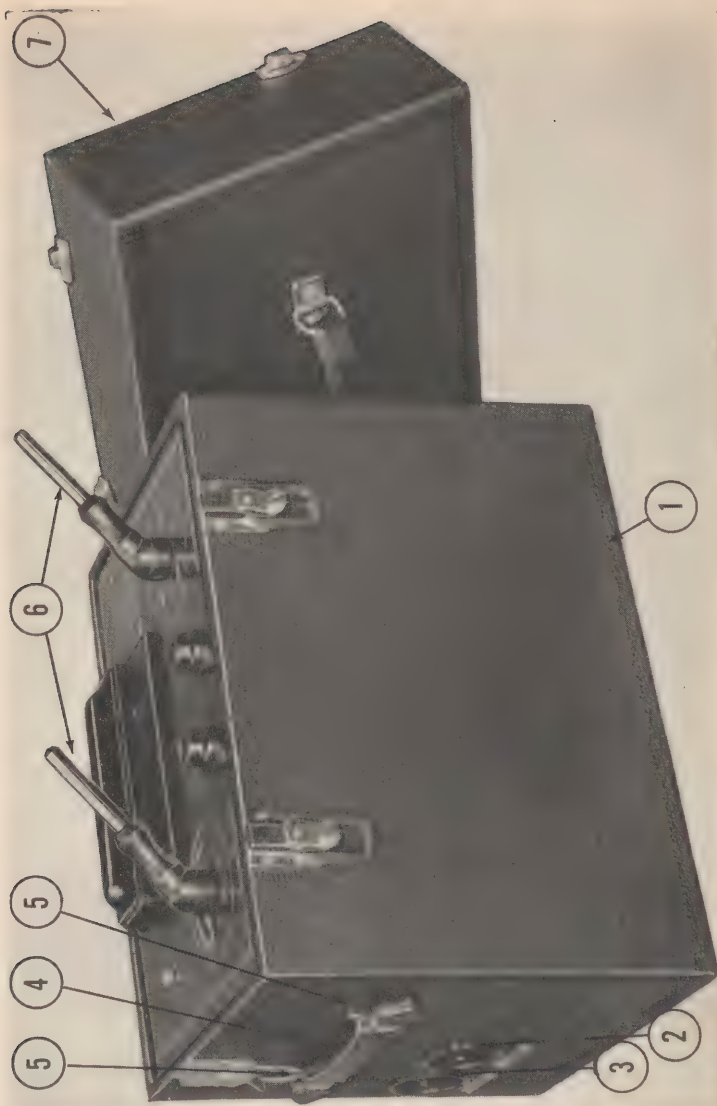
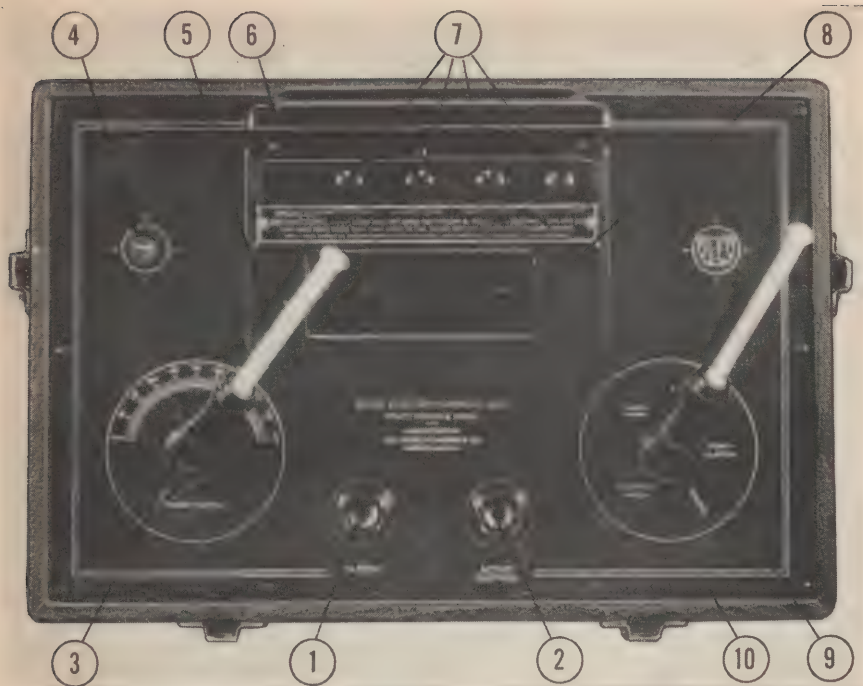
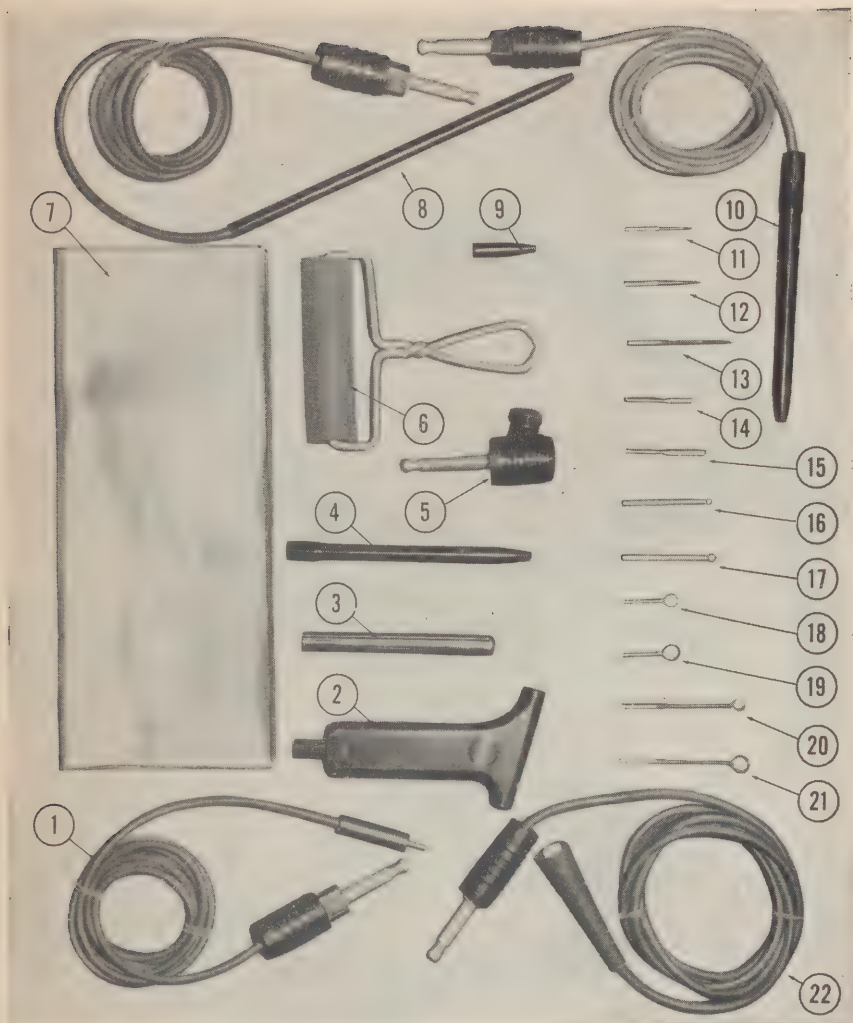
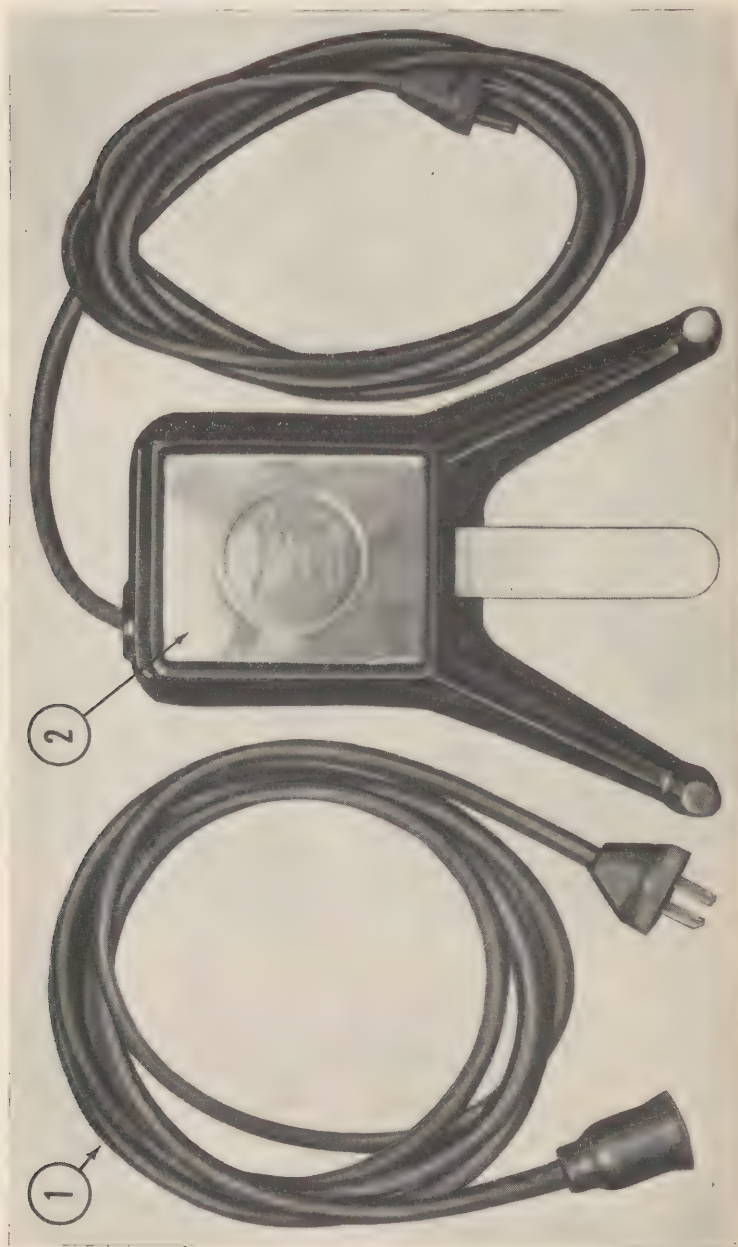

Figure 1. *Electro-Surgical Unit, Portable.*
Figure 2. Electro-Surgical Unit, Portable, top view.
Figure 4. Accessories.
Figure 5. Foot switch and supply cord.
1. SCOPE. This manual is published for the information and guidance of all personnel charged with the operation and maintenance of Electro-Surgical Unit, Portable, Medical Department No. 36703 (fig. 1) in the field. This manual is concerned chiefly with assembling, operation, maintenance, and packing of the unit. There is appended a standard nomenclature list of parts. Illustrations show the component parts and accessories described in the text.
2. DESCRIPTION. The Electro-Surgical Unit, Portable, item No. 36703, a standard type electrical surgical unit with two high-frequency oscillating currents combined in a single housing. One current generated is a cutting current, the other is a highly damped wave form for coagulation. A single selector switch permits instant change from cutting to coagulating current without release of the electrode in hand. A foot switch, 3R01656 (fig. 5), completes the control system. The unit is mounted in a compact, portable case with a compartment in the cover for accessories.
4. ASSEMBLIES. The Electro-Surgical Unit, Portable, consists of the unit completely inclosed in the carrying case (figs. 1, 2, and 3) and the accessories (figs. 3, 4, and 5) inclosed in the cover.
a. The unit includes the carrying case, complete with handles and hasps, 3R01704 (fig. 1), the various controls, and spark gap assembly, 3R01652 (figs. 3 and 6).
b. The accessories include the foot switch, 3R01656 (fig. 5), the supply cord, 3R01646 (fig. 5), and the operation electrodes and handles (fig. 4).
b. Connect supply cable, 3R01646 (fig. 5), and foot switch, 3R01656 (fig. 5), to plugs on side of case (fig. 1). Spark gap adjustment should be made at this point before other accessories are assembled. (See par. 8.)
c. Connect indifferent electrode, 3R01644 (fig. 4), to the terminal marked "Patient", using the cord with clip on one end and round plug on the other, 3R01618 (fig. 4). The clip is fastened onto the metal indifferent plate, 3R01644 (fig. 4).
d. When used with aseptic surgery the various parts that require touching or handling during operation should be sterilized before they are connected. These parts include the handles, 3R01604 (fig. 1), the chuck handle and cord and the required operating electrodes (fig. 4). (See par. 10).
e. Insert sterilizable handles, 3R01604 (fig. 4), into handle holders (fig. 1). Turn handle two or three turns clockwise to lock in place.
f. Insert operating electrode in chuck handle (fig. 4) by unscrewing to release chuck, inserting the electrode and then tightening chuck carefully.
g. Connect square terminal plug on chuck handle (fig. 4) to the terminal marked "Active Electrode" (fig. 2).
a. Disconnect supply cable, 3R01646 (fig. 5) and foot switch, 3R01647 (fig. 5).
8. ADJUSTING SPARK GAPS. **a.** Firing of the gaps may be observed through the glass window, 3R01694 (fig. 2). Immediately above each gap is its adjustment knob, 3R01650 (fig. 2). Turning the knob clockwise closes the gap; counterclockwise opens the gap. As the quality of the current is dependent on spark gap adjustment, it is essential that this operation be accurately and properly performed.
b. First move selector switch (fig. 2) to either the "Scalpel" or "Coagulation" position. Step on foot switch, 3R01656 (fig. 5) to start current flow through gaps. Then look at the gaps through observation window, 3R01694 (fig. 2). If any of the gaps are not firing, turn the proper adjusting knob, 3R01650 (figs. 2 and 6) counterclockwise to open the gaps slightly until all start to fire. It is essential that all gaps be firing prior to adjustment.
9. POWER CONTROL SETTINGS FOR ELECTRICAL CUTTING. a. The single control at left front on the top panel (fig. 2) varies the power of both the cutting and coagulation currents. This control is effective when either current is turned on. Rotating through its graduated scale, it affords a constant, unbroken range of power from zero up to maximum output of the current in use. The scale is purely arbitrary, indicating the relative current strength between minimum and maximum settings. The amount of power required for any given type of work, either cutting or coagulation, involves a number of variables so that experience and familiarity with the machine and different electrodes will be of more value than any arbitrary figure that may be set. However, if the fundamentals are thoroughly understood, the operator will, with a little experience, have no difficulty in arriving at the correct settings to use under different conditions.
(2) When not in use, the chuck handle and active electrode should be placed on a sterilizable instrument rack because, if laid on top of the patient, a burn may result if the foot switch, 3R01656 (fig. 5) is depressed.